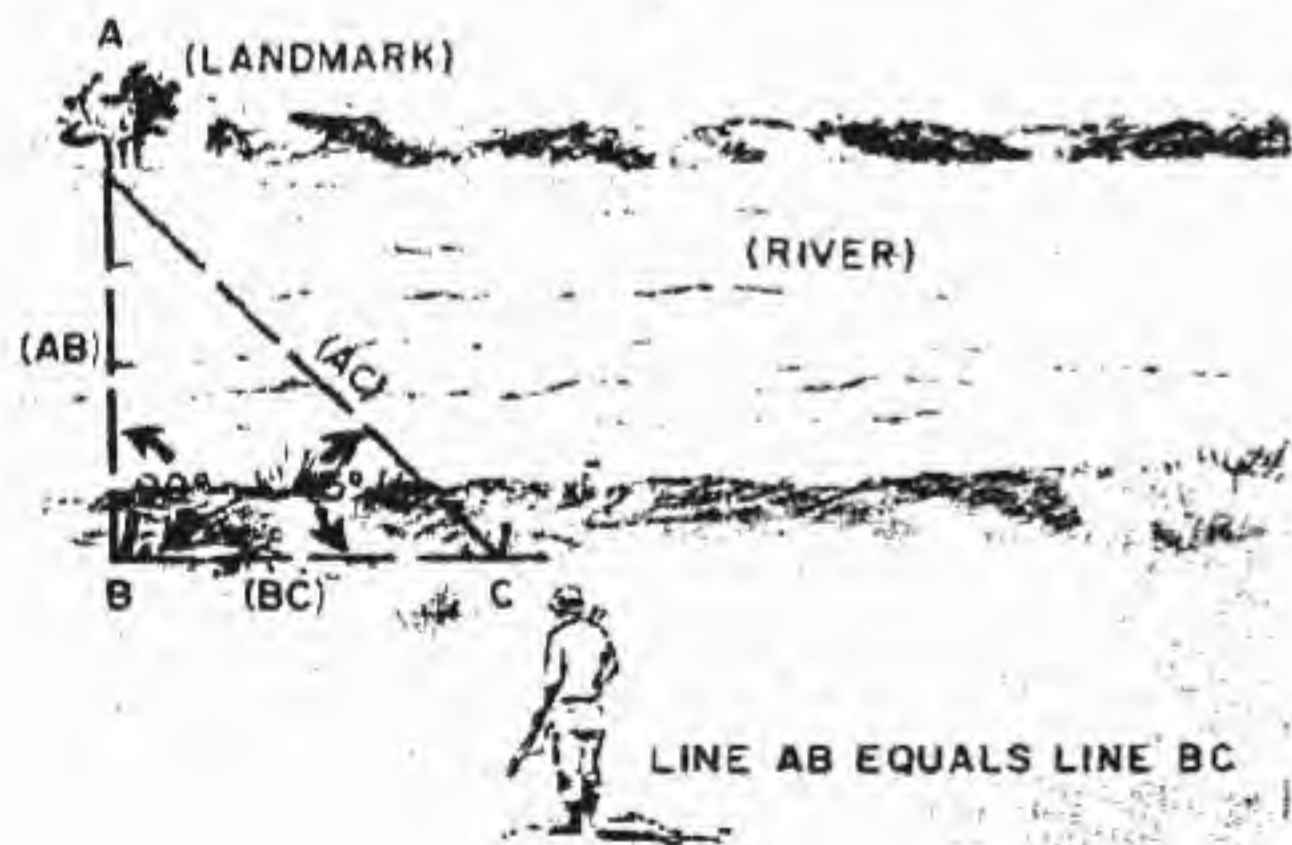

Figure 5
2. 45-DEGREE RIGHT TRIANGLE METHOD (Figure 5) - requires an angle measuring device such as a prismatic compass. Method is based on fact that the two legs of an isosceles right triangle are equal.